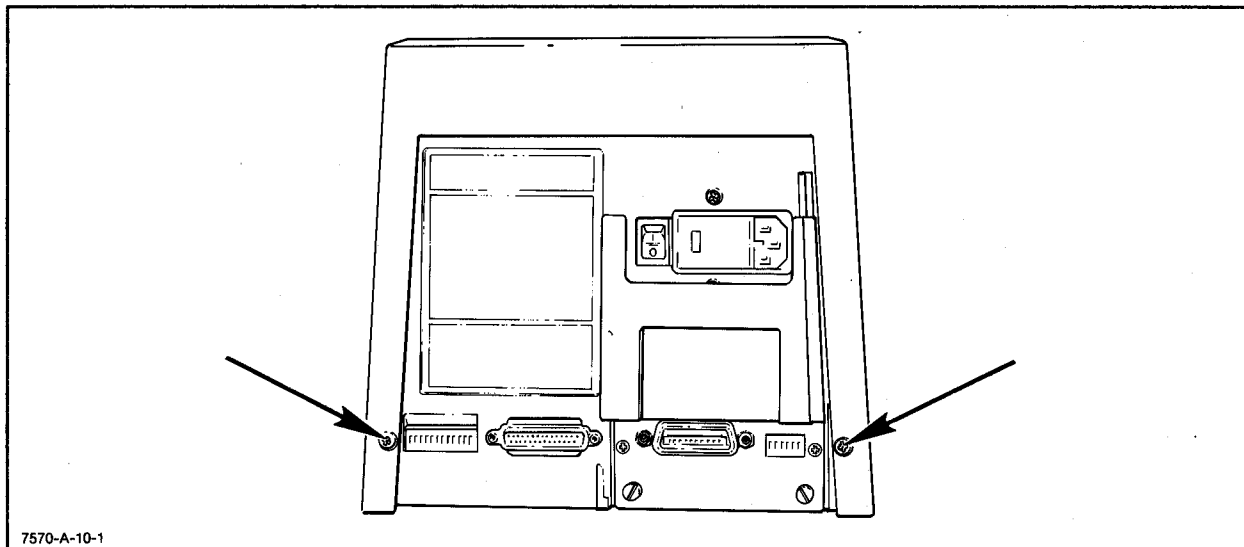

Figure 6-1. Chassis Cover Removal
- a. Turn OFF (0) the plotter and disconnect the ac line cord and the interface cable from the back of the right-hand chassis.
- b. Remove the two machine screws from the lower back edge of the chassis cover. See Figure 6-1.